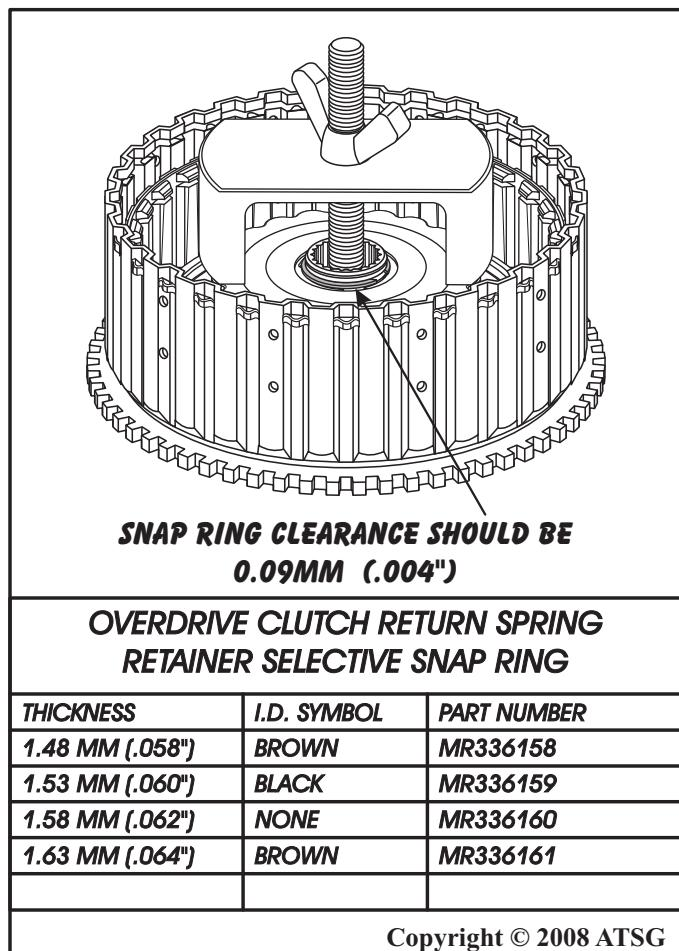

Figure 92
14. While the assembly is compressed, measure with a feeler gauge, the snap ring clearance, as shown in Figure 92.
Note: Make a selection as necessary from the chart in Figure 92.